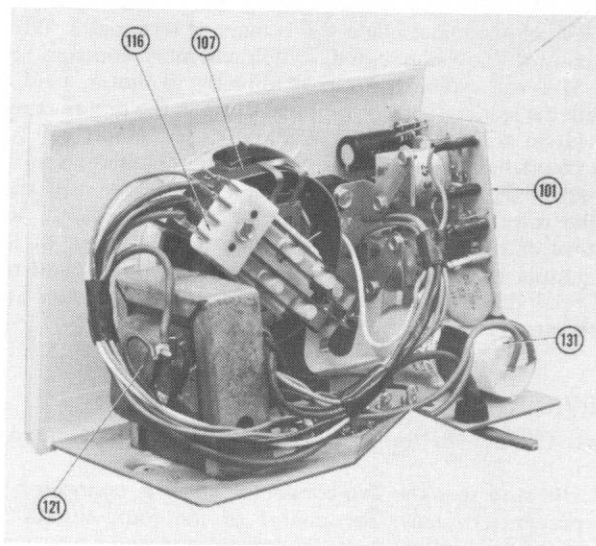

Fig. 75. Internal Components—Model C-225A Control Box.
3. Viewing the switch assembly (Item 116, Fig. 75) from the rear, switch contacts SI-1 and SI-4 should be closed and primary input contacts SI-2 and SI-3 should be open and have approximately 1/16 inch clearance.
Rotor operates slowly or sluggishly.	Check size and length of five-conductor cable (see Fig. 4). Change capacitor (Item #131, Fig. 75).